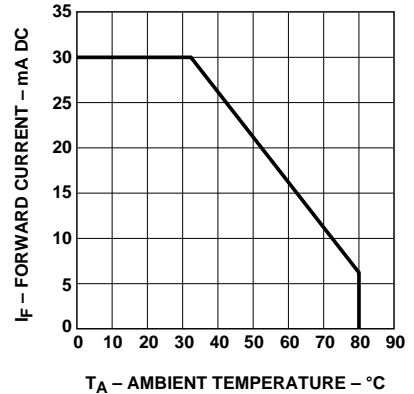

Figure 6. Maximum DC Forward Current vs. Ambient Temperature. Derating Based on T_J Max. = 115 °C.
- Derate linearly from 50 °C as shown in Figure 6.